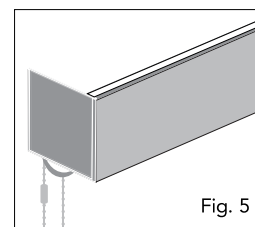

Fig. 5
- The square aluminum fascia covers the roller and brackets for a clean, sophisticated look (Fig. 5).